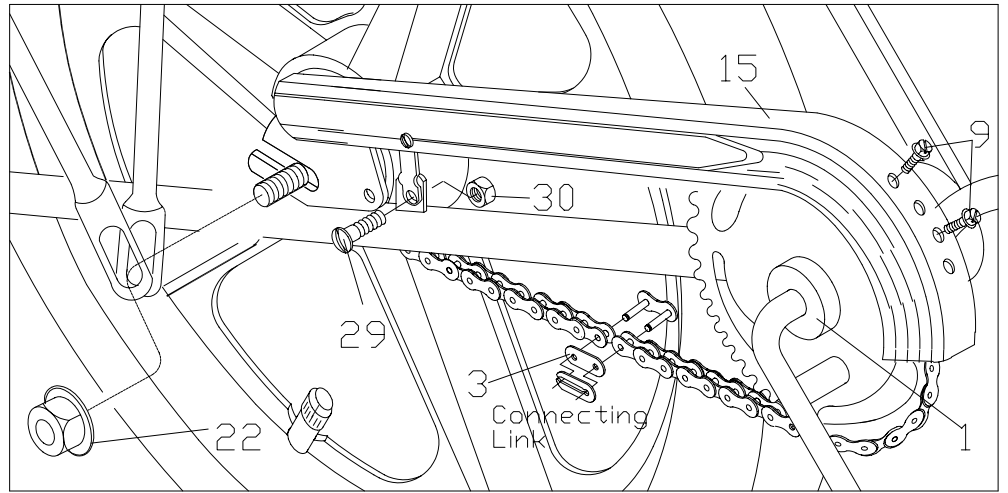

Fig. 4
6. CHAIN (SEE FIGURE 4)
PLACE CHAIN (4) AROUND SPROCKETS AND JOIN WITH CONNECTING LINK (3) (SEE FIGURE 4). SLIDE WHEEL ASSEMBLY BACK UNTIL CHAIN IS TIGHT (APPROXIMATELY 3/4" UP AND DOWN MOVEMENT IS PERMISSIBLE). WHILE HOLDING WHEEL ASSEMBLY CENTERED BETWEEN FRAME TUBES, GRADUALLY TIGHTEN AXLE NUTS (22) ALTERNATELY ON EACH SIDE. TIGHTEN BRAKE STRAP SCREW.
Install chainguard (15) by removing the screws (9) in the front mounting brackets (see figure 4). Place the rear of the chainguard between the wheel and fender brace. Align hole in the rear chainguard mounting bracket with the hole in the frame tab. Insert screw (29) from the outside and secure with nut (30). Pull chainguard forward until front chainguard mounting brackets line up with the second and fourth hole in the front of the chainguard. Secure chainguard with screws (9). (see figure 4)